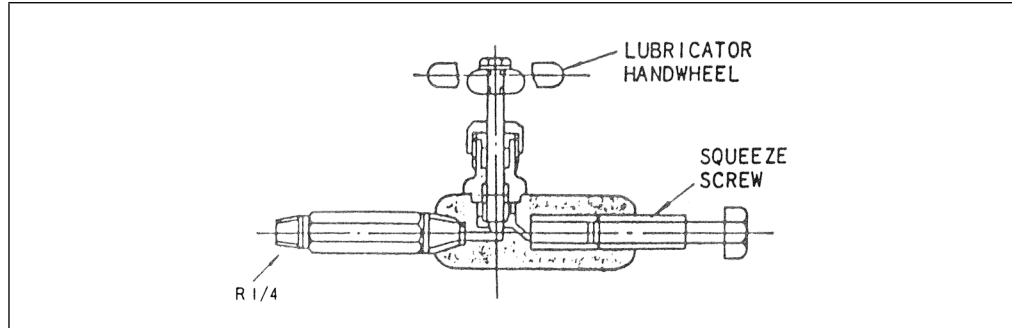

Fig. 2-3. Lubricator (Class 600 or under)
- (3) If the valve is provided with a lubricator as shown in Fig. 2-3, check whether the bonnet section has been lubricated or not. To do this, loosen the lubricator handwheel and turn the squeeze screw. If the squeeze screw turns lightly, follow the lubricating procedure mentioned below. (If the squeeze screw turns heavily, this means that grease has been applied.)